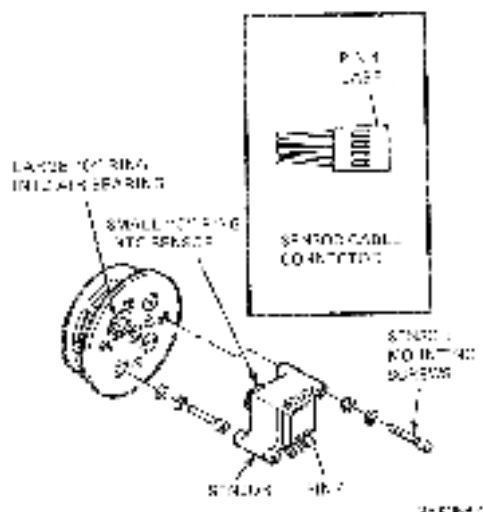

Figure 4-12 Air Bearing Sensor Assembly
3. Locate supply or take-up air pressure sensors and their respective connectors on bottom of tape deck. Detach cable connector (check W1 cable for supply sensor, and W9 cable for take-up sensor) from sensor pins (Figure 4-12).
4. Reattach connector to sensor pins (Figure 4-12).